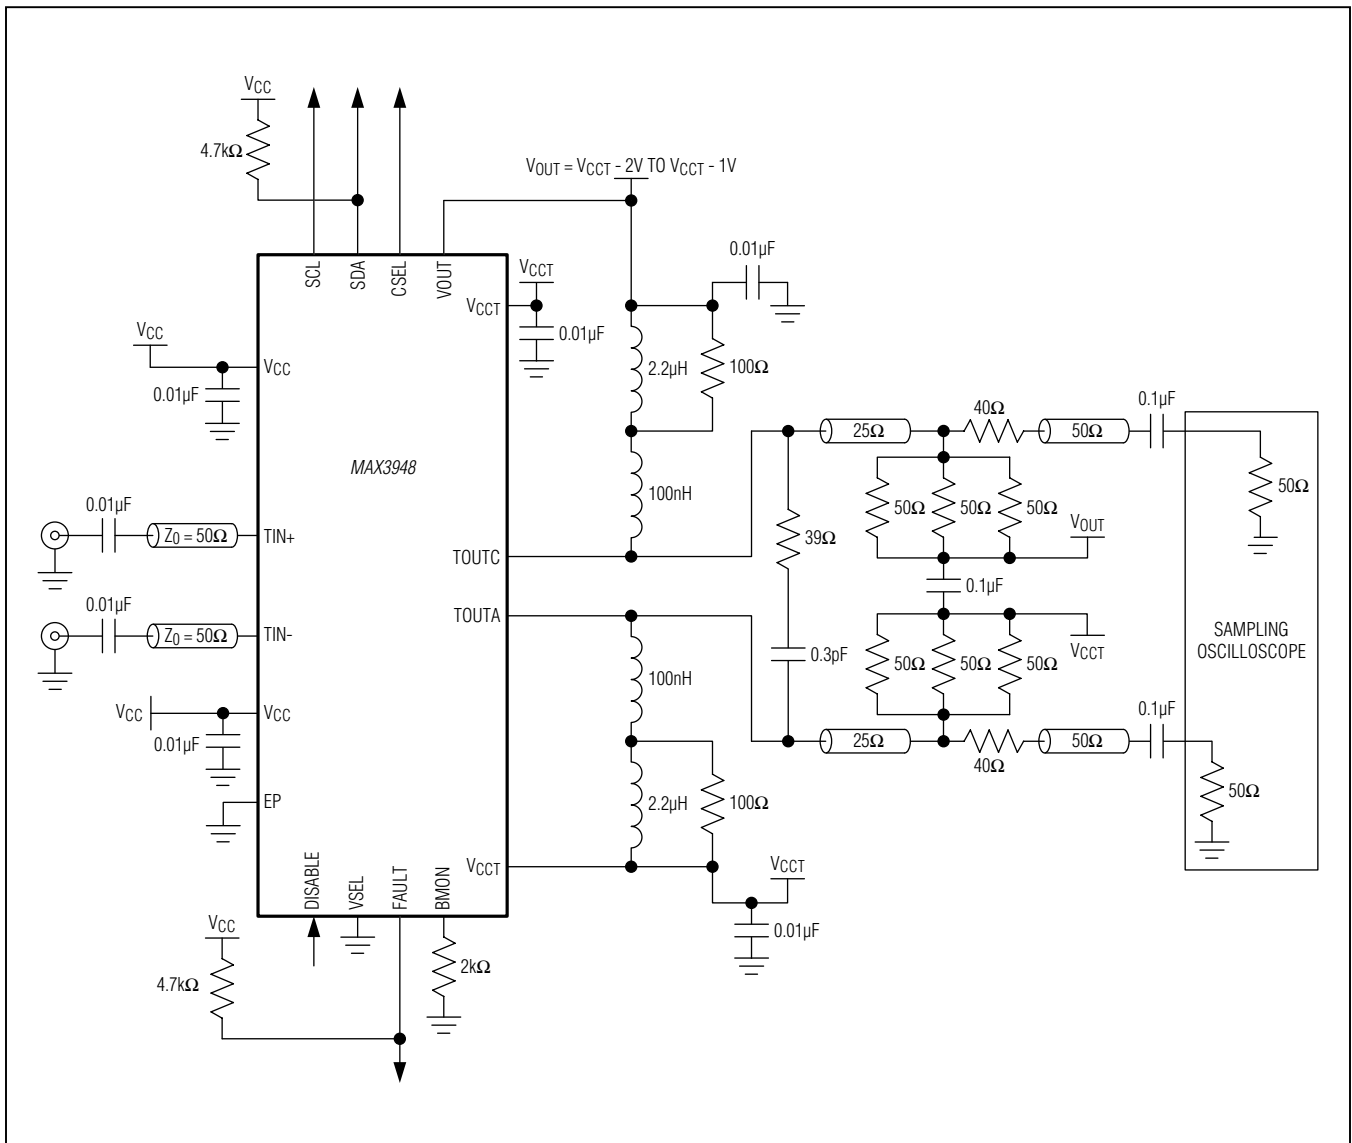

Figure 1. AC Test Setup
( $V_{CC} = V_{CCT} = 2.95V$  to  $3.63V$ ,  $T_A = -40^\circ C$  to  $+95^\circ C$ ; typical values are at  $V_{CC} = V_{CCT} = 3.3V$ ,  $T_A = +25^\circ C$ ,  $LD_{DC} = 20mA$ ,  $LD_{MOD} = 40mA$ , and  $14\Omega$  single-ended electrical output load, unless otherwise noted. See Figure 1 for electrical setup.) (Note 2)
( $V_{CC} = V_{CCT} = 2.95V$  to  $3.63V$ ,  $T_A = -40^{\circ}C$  to  $+95^{\circ}C$ ; typical values are at  $V_{CC} = V_{CCT} = 3.3V$ ,  $T_A = +25^{\circ}C$ ,  $LD_{DC} = 20mA$ ,  $LD_{MOD} = 40mA$ , and  $14\Omega$  single-ended electrical output load, unless otherwise noted. See Figure 1 for electrical setup.) (Note 2)
**Note 4:** Measured with Agilent 8720ES + ATN-U112A and series RC ( $39\Omega$  and  $0.3pF$ ) between  $T_{OUTC}$  and  $T_{OUTA}$  (Figure 1).